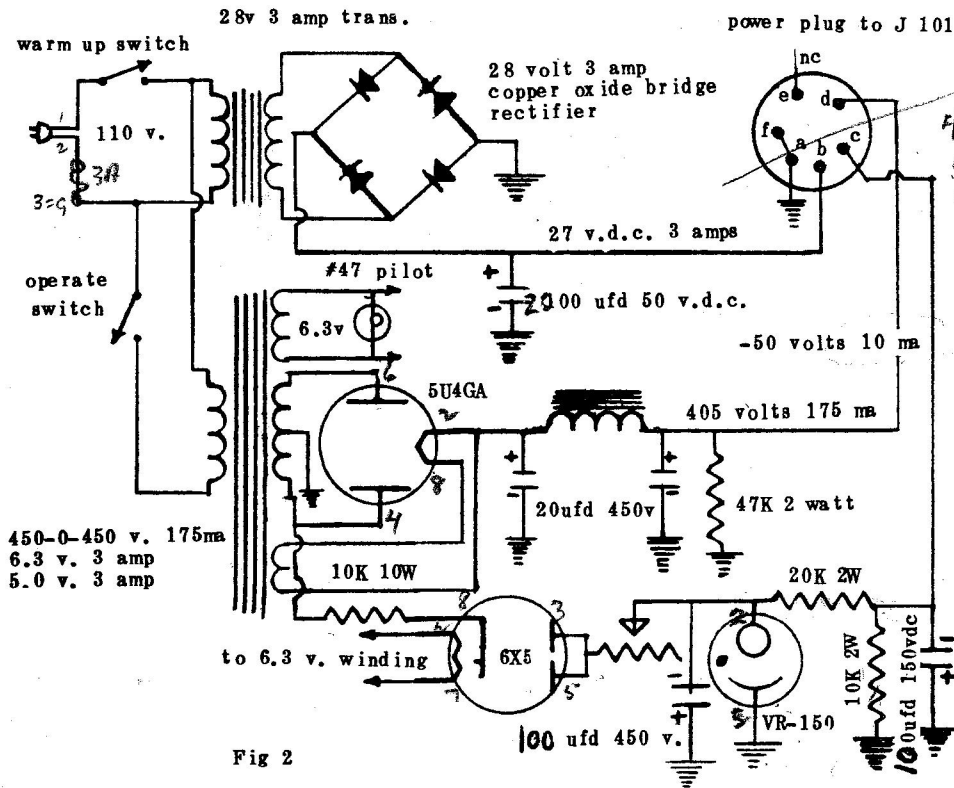

Fig 2
**POWER REQUIREMENTS.** SEE ATTACHED SCHEMATIC AND NOTE FIG. 2.
It may be noted that a 28 volt DC supply is used for the filaments. Ordinarily this would not be necessary but because this supply also provides centering voltage and power for the pick up tube bias light, it is mandatory to use DC on these circuits. The power supply shown in Fig. 2 is the simplest solution to the problem, but these circuits could be separated and the filaments operated from AC. Voltage regulation at this point is unnecessary because two VR-150's are used in the B plus circuit in the camera.